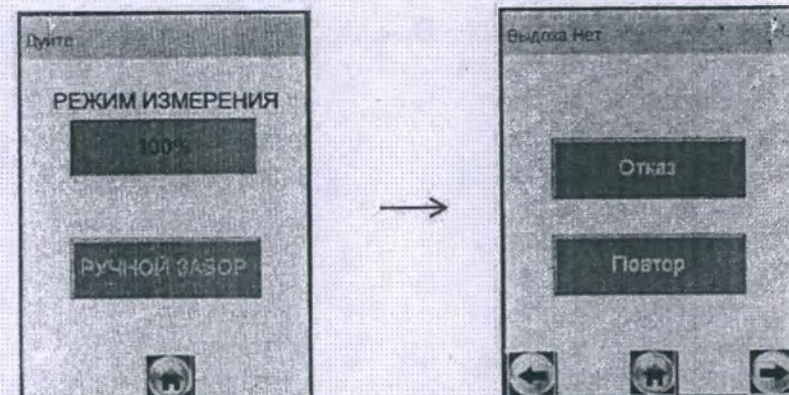

Figure 20 - Changing windows in the absence of exhalation
2.8.21 If, when performing 2.8.12 **Blow** ” window of readiness for sampling (Figure 20, left) will be replaced by the “ **No exhalation** ” window (Figure 20, right) after 30 seconds.